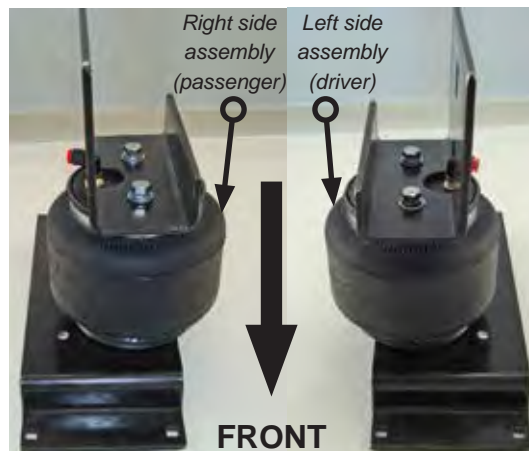

fig. 4
5. Attach the lower bracket to the bellows assembly with two 3/8" flat head screws (E) and torque to 20ftlbs (fig. 4).